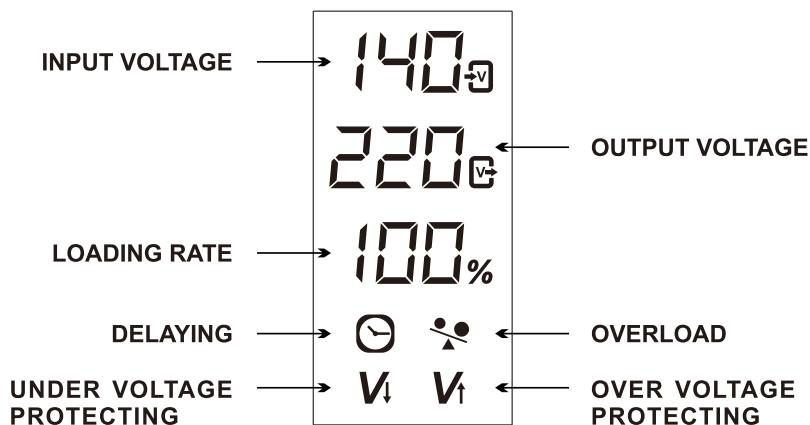

Figure 3
*for details, see **Figure 3***